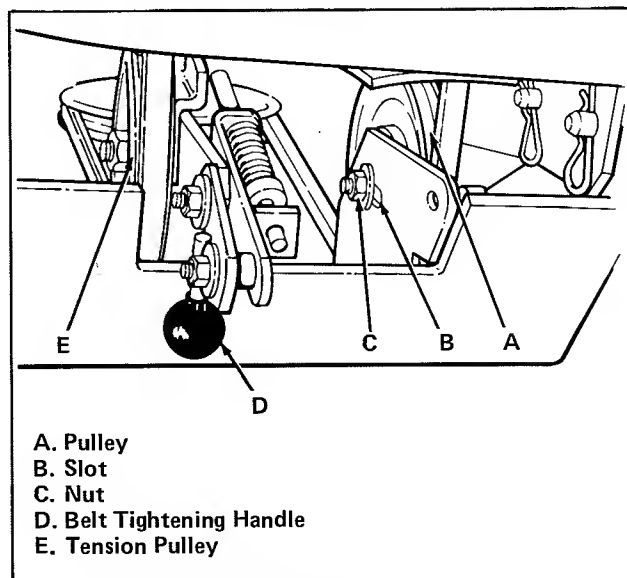

Figure 22. Belt Clearance Adjustment
1. Pull belt tightening handle (item D, figure 22) fully forward.